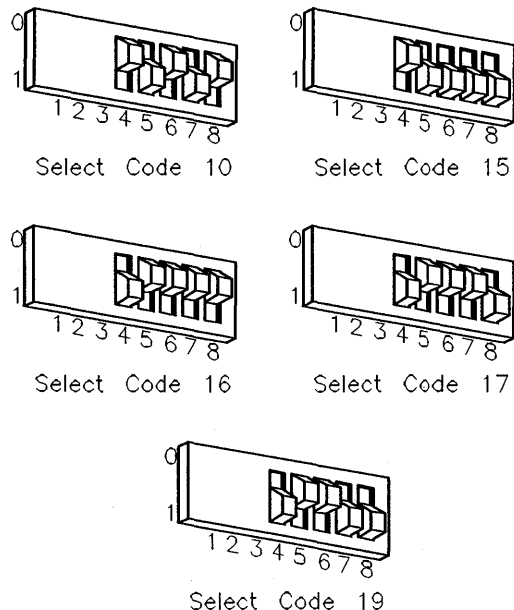

Figure 10-8. 4-Port Multiplexer Interface Card Select Codes
3. Set these switches to one of the five select codes given in Figure 10-8, unless you have used them elsewhere (check the Select Code Record on the Step 5 tab to see which ones you have used). Refer to the installation note that came with the interface if you need additional switch settings.